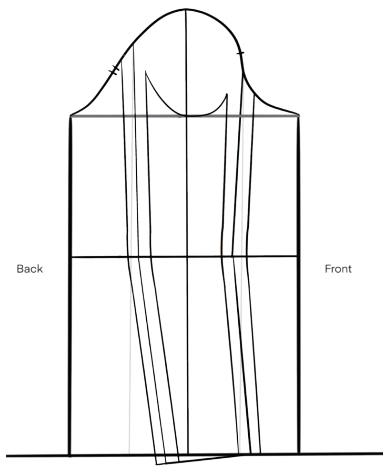

Fig.28
- Based on the Sleeve Draft that I created. I got a preliminary copy of the sleeve. (Fig.28)